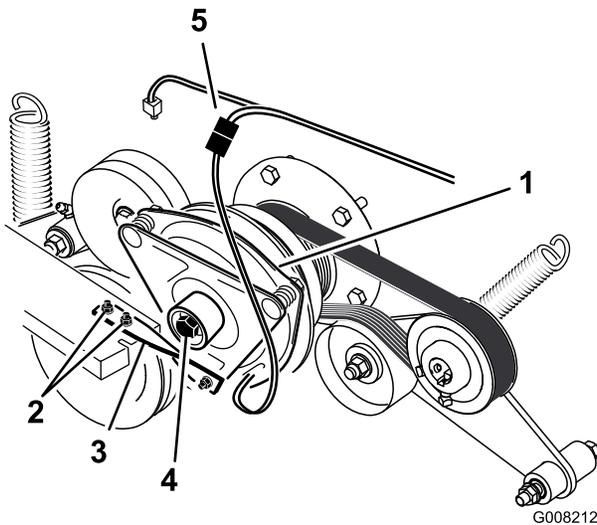

Figure 58
6. Unplug the electric connection for the clutch (Figure 58).
7. Remove the 2 bolts holding the rubber clutch strap to the mower frame (Figure 58).
8. Remove the center bolt holding the clutch to the engine shaft and remove the clutch and key (Figure 58).
15. While holding the crank shaft at the back of the machine, install the center bolt and torque it to 68 N-m (50 ft-lb) (Figure 58).
16. Install the rubber clutch strap to the mower frame with the 2 previously removed bolts and nuts (Figure 58).
18. Plug in the electric connection for the clutch (Figure 58).